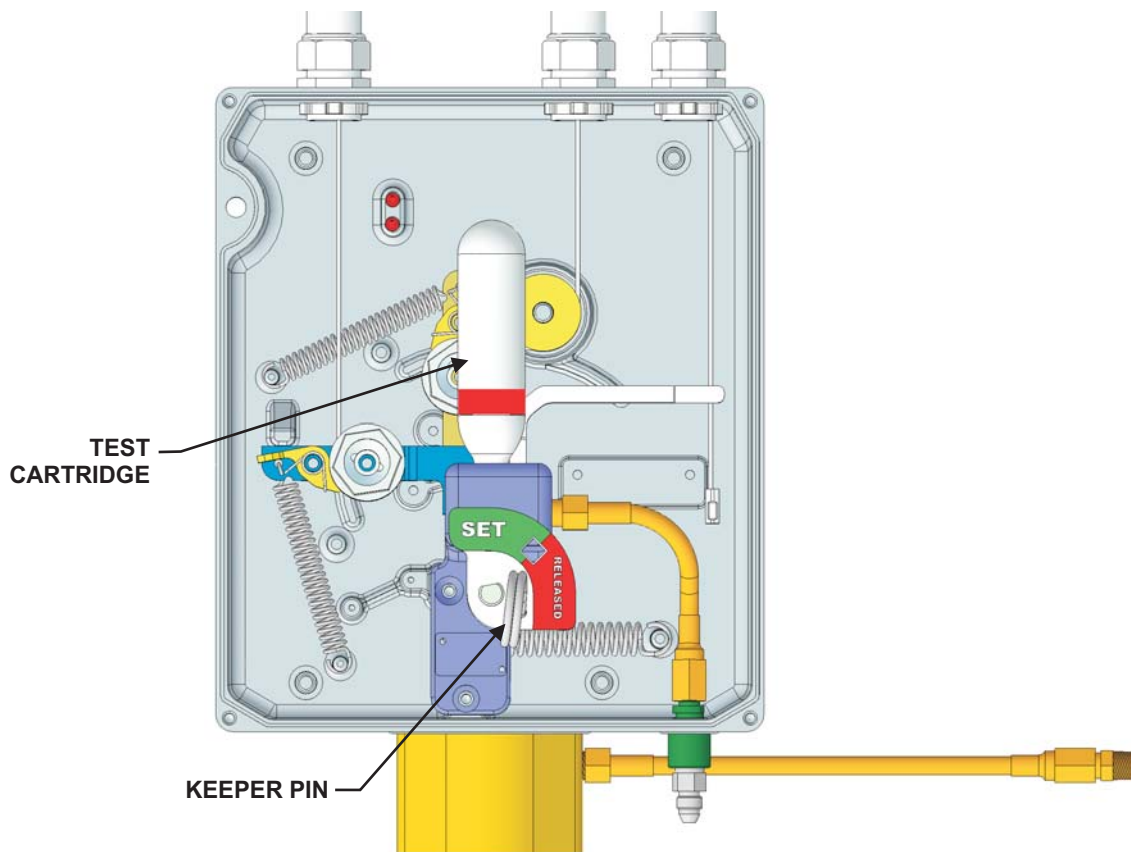

Figure 4-56. XV Control System, Test Cartridge Placement
1. After ensuring that the system is in the 'Set' position and the Keeper Pin is in place, locate the Test Cartridge (P/N 87-120044-001). Carefully install the cartridge into the valve assembly of the XV Control System. Tighten until cartridge is snug (see Figure 4-56). It is permissible to perform this test with the System Cartridge.